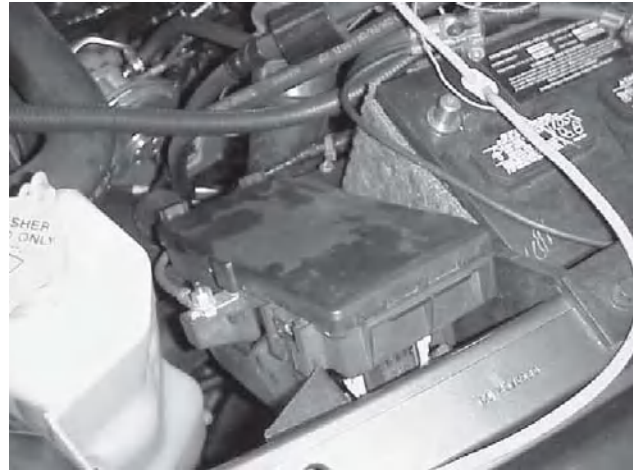

Fig. 5a
- a. Power will be take from the TIPM module which is locate in front of the drivers side battery (see figure 5a)